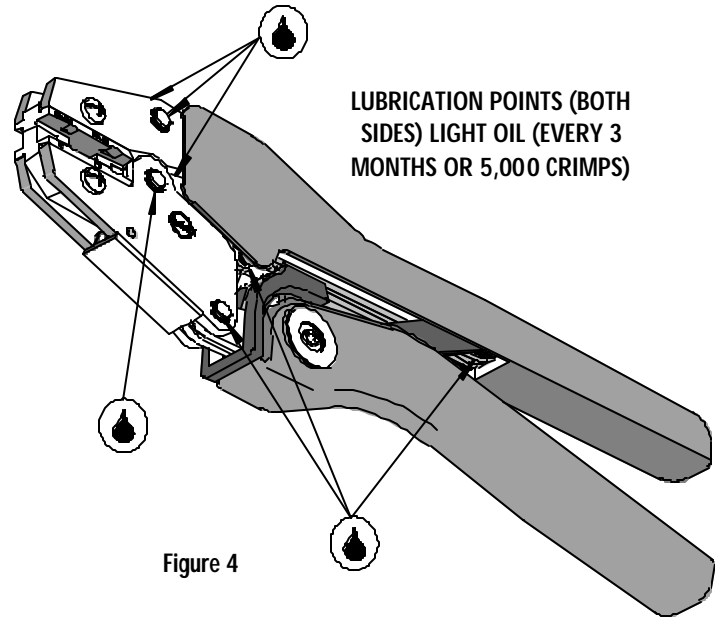

Figure 4
3. Make certain all pins, pivot points and bearing surfaces are protected with a thin coat of high quality machine oil. Do not oil excessively. The 64001-4100 (RHT-FIFG) was engineered for durability, but like any fine piece of equipment, it needs cleaning and lubrication for a maximum service life of trouble-free crimping. A light oil, such as 30 weight automotive oil used at the oil points shown in Figure 4, every 5,000 crimps or 3 months will significantly enhance the tool life and ensure a stable calibration.